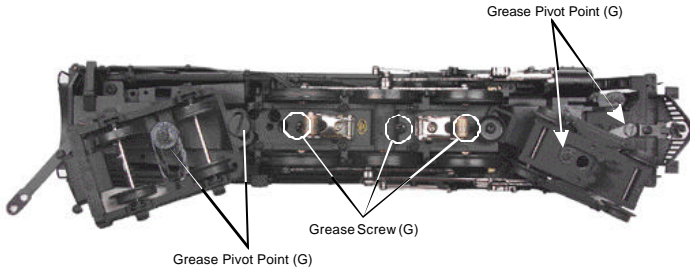
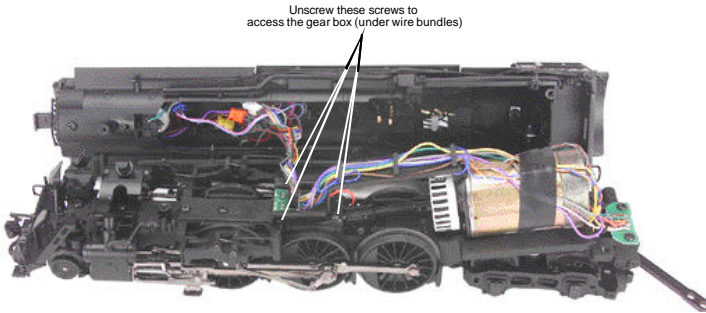

Figure 6: Lubricating The Grease Points
Figure 7: Motor Gearing Grease Plate Screws
3. Remove the Phillips screw (marked “GREASE”) located at each set of wheels (Fig. 6) and the gearbox cover screws (Fig. 7).
You should also grease the leading and trailing locomotive truck tongues to enhance their ability to slide on the chassis. Follow the grease points shown on Fig. 6.